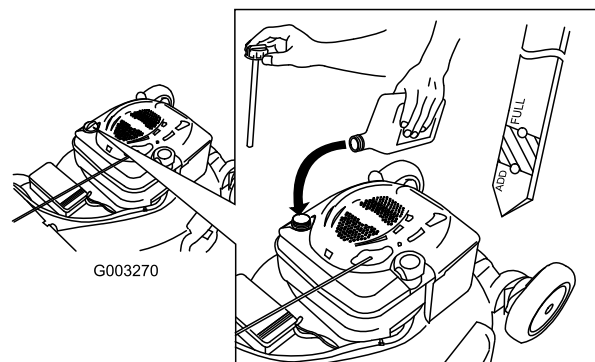

Figure 7
1. Remove the dipstick (Figure 7).
2. **Slowly** pour oil into the oil fill tube until the oil level reaches the Full line on the dipstick (Figure 7). **Do not overfill.** (Max. fill: 20 oz. (0.59 l), type: SAE 30